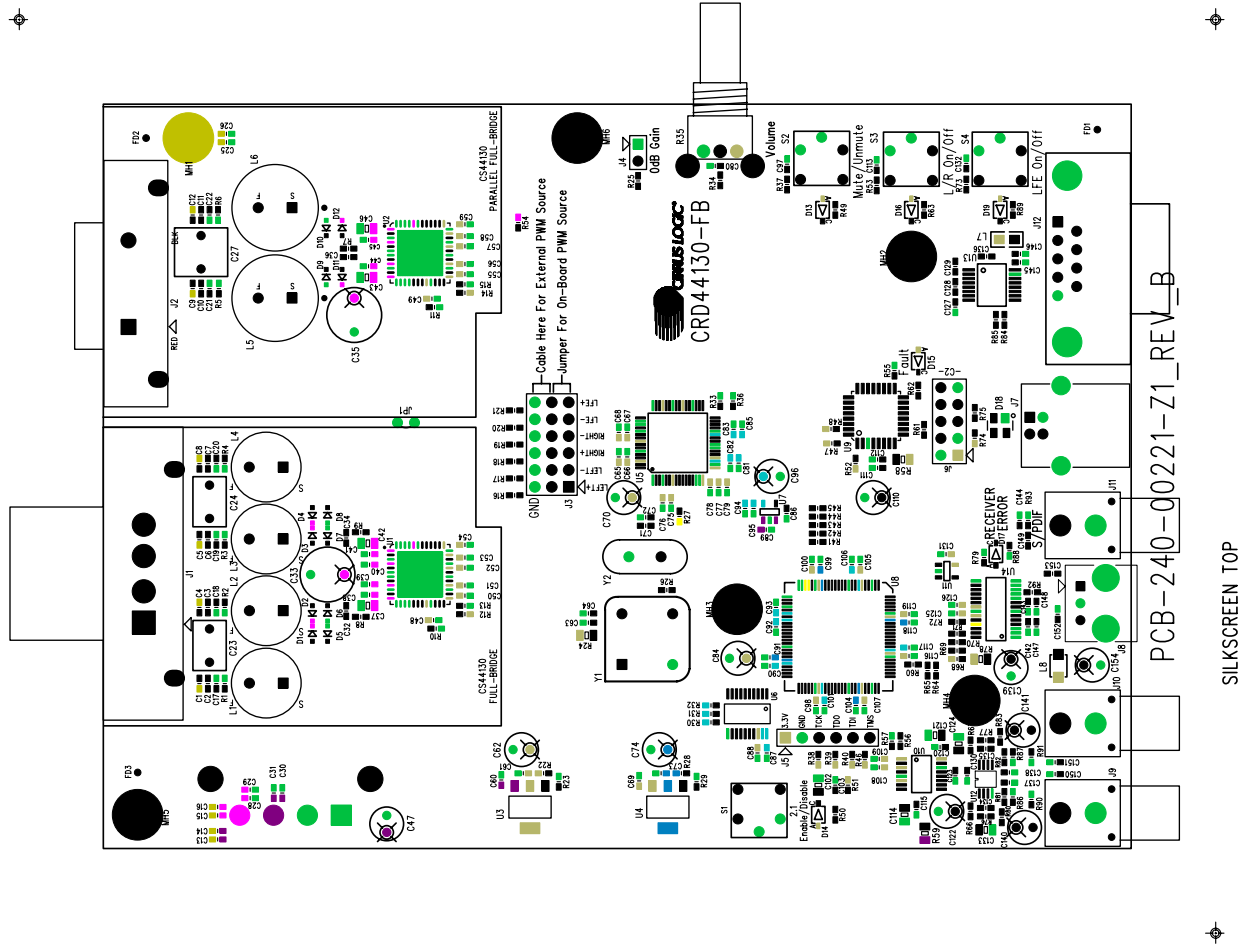

Figure 11. Silk Screen Top
Proper power supply decoupling is one key to maximizing the performance of a Class-D amplifier. Because the design uses an open loop output stage, noise on the power supply rail will be coupled to the output. Referring to Figure 11 on page 21, the top side of the CRD44130-FB PWM amplifier board, good decoupling practice is shown. Notice that the 0.1 μ F ceramic capacitors are as close as physically possible to the power pins of the CS44130. The ground side of the capacitors is connected directly to top side ground plane, which is also used by the power supply return pins. This keeps the high-frequency current loop small to minimize power supply variations and EMI. 330 μ F electrolytic capacitors are also located in close proximity to the power supply pins to supply the current locally for each channel. These are not required to be expensive low ESR capacitors. General-purpose electrolytic capacitors that are specified to handle the ripple current can be used.
- Each output of the CS44130 includes “snubbing” components. For example, the PWM outputs of U1 and U2 include snubber components R7, R8, and R9 (20 Ω); and C32, C34, and C36 (330 pF). These components serve to damp ringing on the switching outputs in the 30-50 MHz range. The snubbing components should be as close as practical to the output pins to maximize their effectiveness. Again, refer to Figure 11 for the preferred component layout.
- A separate ground plane with a capacitively coupled electrical connection to the chassis and which surrounds the speaker output connector should be implemented. This allows the speaker outputs to be AC coupled to the chassis just before they exit the chassis from the speaker connector. Again, refer to Figure 11 for the preferred component layout.